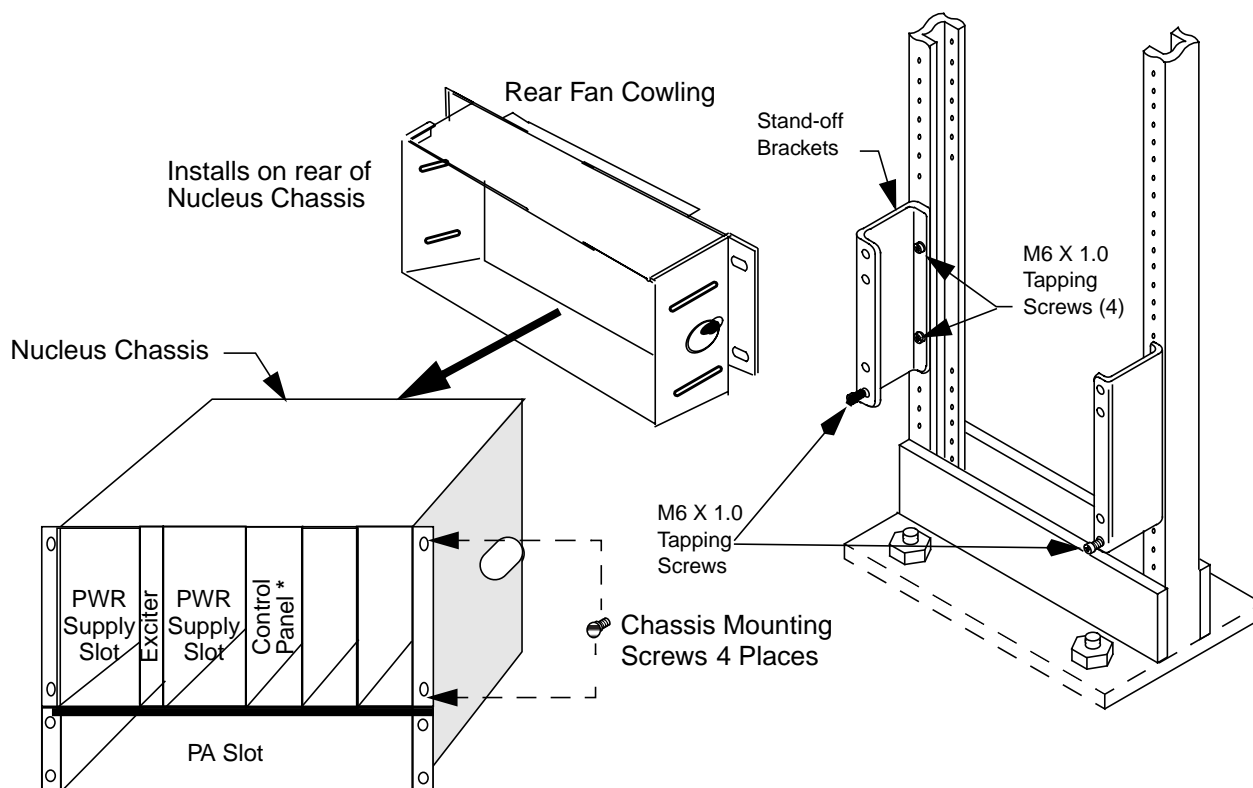

Figure 4-9: High Power Station Mounting in a 19 Inch Equipment Rack
2. Install Nucleus chassis in the equipment rack (see Figure 4-9):
- d. Insert an M6x1.0 tapping screw (supplied) into each front rail at the lower of the two holes for each stand-off bracket (see Figure 4-9). The screw head is approximately 1/8 in. from the rail surface. These screws assist in positioning and holding the station for mounting.
- e. Carefully lift the station chassis and position the chassis in the equipment rack so it rests on the two screws installed in above (see Figure 4-9).
- g. Insert four M6x1.0 tapping screws (two on each side), using a TORX screwdriver and TX 30 bit (see Figure 4-9).
- m. Secure in place with four M6x1.0 tapping screws (two on each side), using a TORX screwdriver and TX 30 bit (see Figure 4-9).
- b. Connect the RF power connector to the RF output connector on the PA (see Figure 4-9).